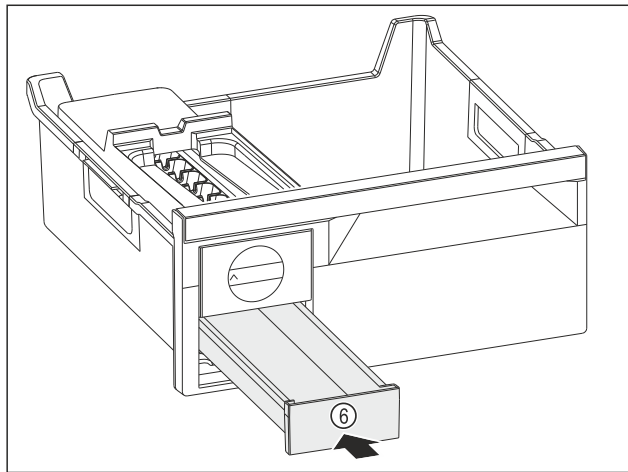

Fig. 168
- Insert the ice cube tray Fig. 168 (6).